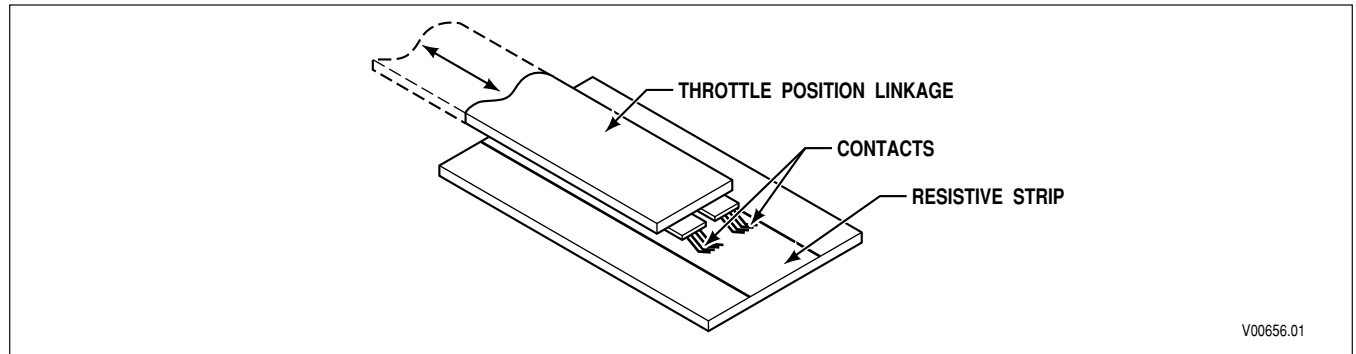

Figure F-1. Throttle Position to Voltage Conversion
### A. Description of Operation (Figure F-1)
1. To properly communicate throttle position to the Transmission Control Module (TCM), the throttle position sensor must convert its mechanical movement to an electrical form the TCM can understand. To accomplish this, contacts move across a resistive strip inside the sensor which translates position into voltage (Figure F-1).